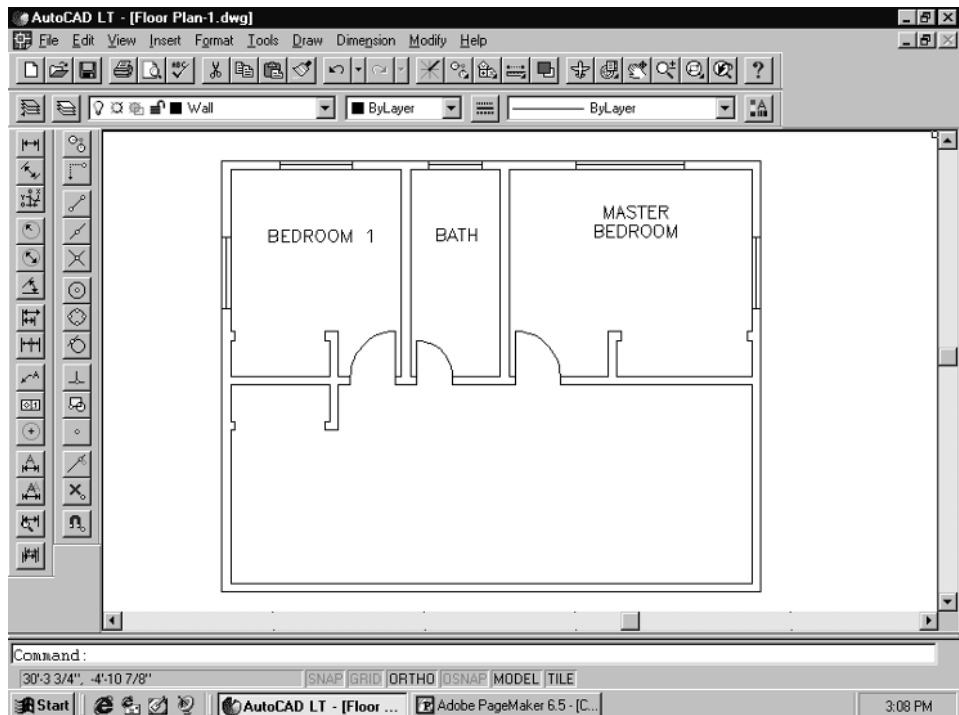

Figure 2-57
4. Follow the same procedure for drawing the other closets. See Sheet #1 for the dimensions. The finished closets should look like Figure 2-57.